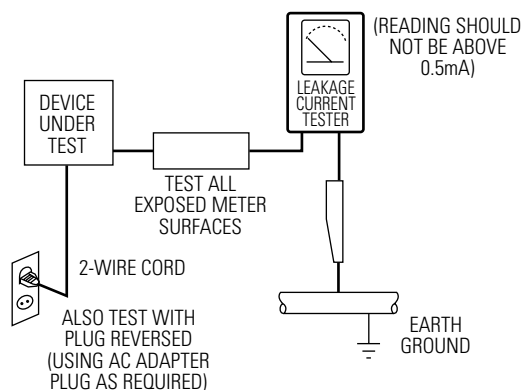

Fig. 1-1 AC Leakage Test
(2) Be sure that there are no cabinet openings through which adults or children might be able to insert their fingers and contact a hazardous voltage. Such openings include, but are not limited to, excessively wide cabinet ventilation slots, and an improperly fitted and/or incorrectly secured cabinet back cover.
(3) Leakage Current Hot Check-With the instrument completely reassembled, plug the AC line cord directly into a 120V AC outlet. (Do not use a isolation transformer during this test.) Use a leakage current tester or a metering system that complies with American National Standards institute (ANSI) C101.1 Leakage Current for Appliances and Underwriters Laboratories (UL) 1270 (40.7). With the instrument's AC switch first in the ON position and then in the OFF position, measure from a known earth ground (metal water pipe, conduit, etc.) to all exposed metal parts of the instrument (antennas, handle brackets, metal cabinets, screwheads, metallic overlays, control shafts, etc.), especially any exposed metal parts that offer an electrical return path to the chassis. Any current measured must not exceed 0.5mA. Reverse the instrument power cord plug in the outlet and repeat the test. See Fig. 1-1.